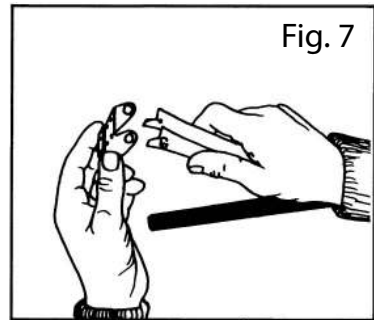

Fig. 7
8. Turn the sill bracket (Part no. 9) 90° around like shown on Fig.7